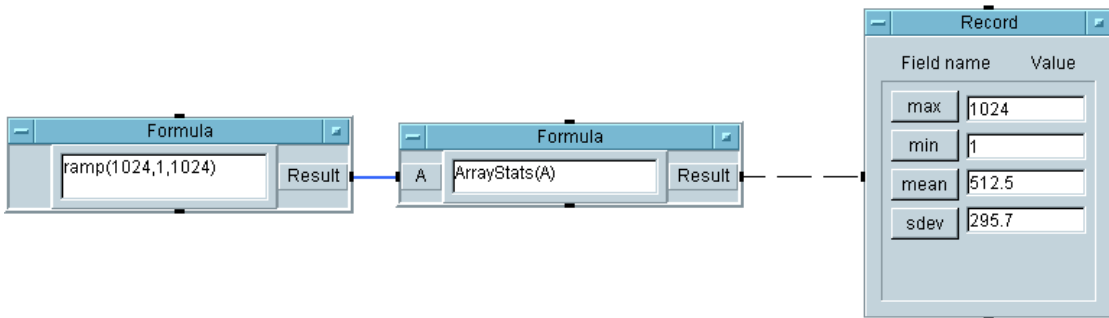

Figure 8-6. Calling the ArrayStats User Function
2. Run the program. It should look like Figure 8-6.
1. In the same example used in Figure 8-6, double-click the `Formula` object `ArrayStats` to delete the object. (You could also select the object menu and select `Cut`.)